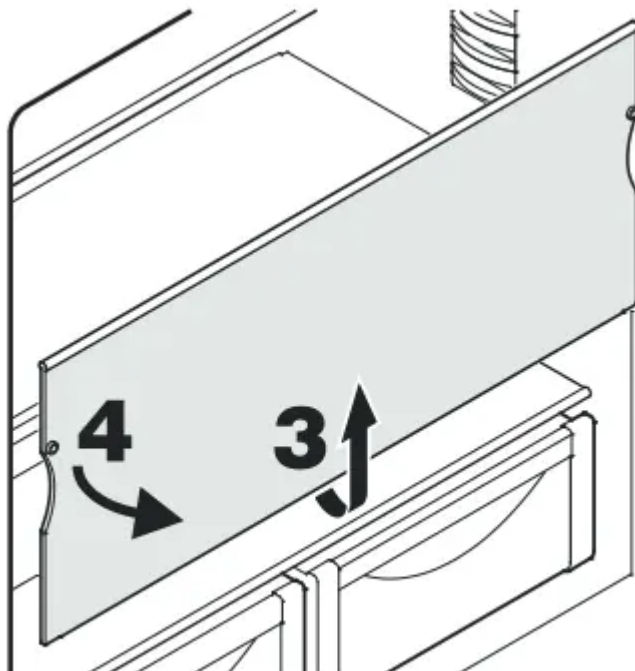

Figure 15
Removing the shelves - Figure 15
- Remove glass shelves as shown in Figure 15.